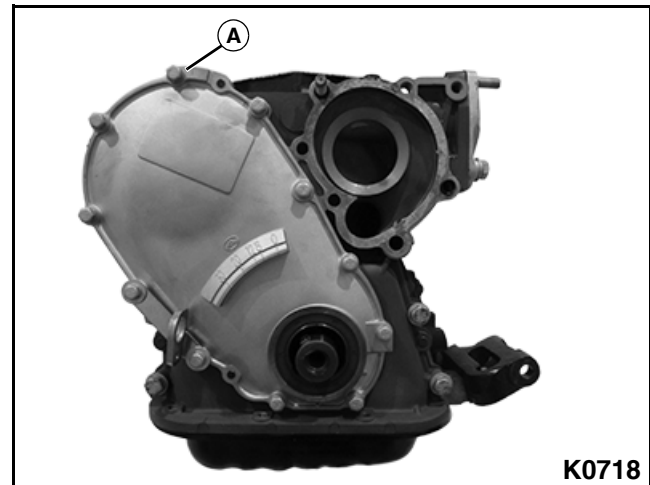

Figure 3-156
1. Remove eleven bolts, lock washers, and flat washers. Leave the timing pick-up sensor bracket attached to timing chain cover. **See Figure 3-156.**